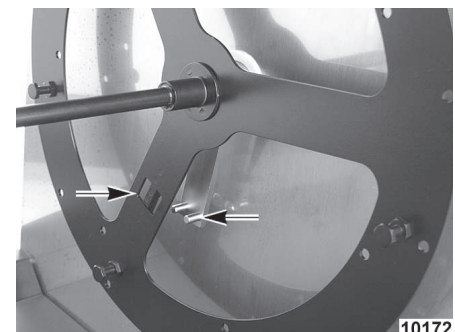

Fig. 4
STEP 4: Turn the rotor, lining up the square drive slots on the rotor end plate with the pins on the drive arm (Fig. 4).